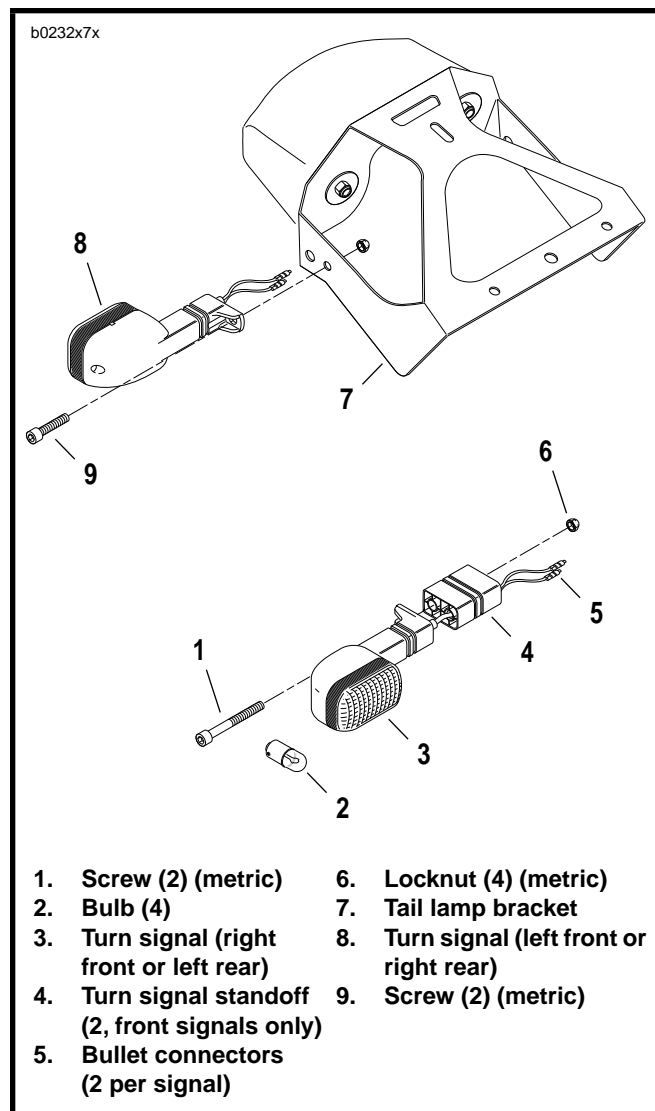

Figure 7-38. Turn Signals
2. See Figure 7-38. Disconnect bullet connectors (5).
3. Remove screws (1) (metric) and locknuts (6) (metric).
4. Remove turn signals and standoffs (4).
1. See Figure 7-38. Cut cable straps to access bullet connectors under tail section. Disconnect bullet connectors.
2. Remove screws (9) (metric) and nuts (6) (metric).
3. Remove turn signals from tail lamp bracket (7).
1. See Figure 7-38. Install turn signals and standoffs using screws (1) (metric) and nuts (6) (metric).
1. See Figure 7-38. Install turn signals using screws (9) (metric) and nuts (6) (metric).